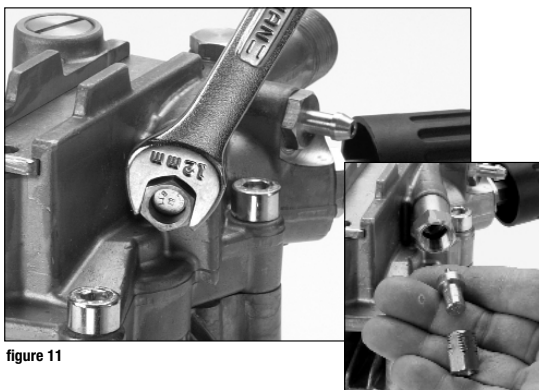

figure 11
1. Remove thermal relief valve screw cap. (figure 11)
2. Disassemble thermal relief valve. (inset figure11)